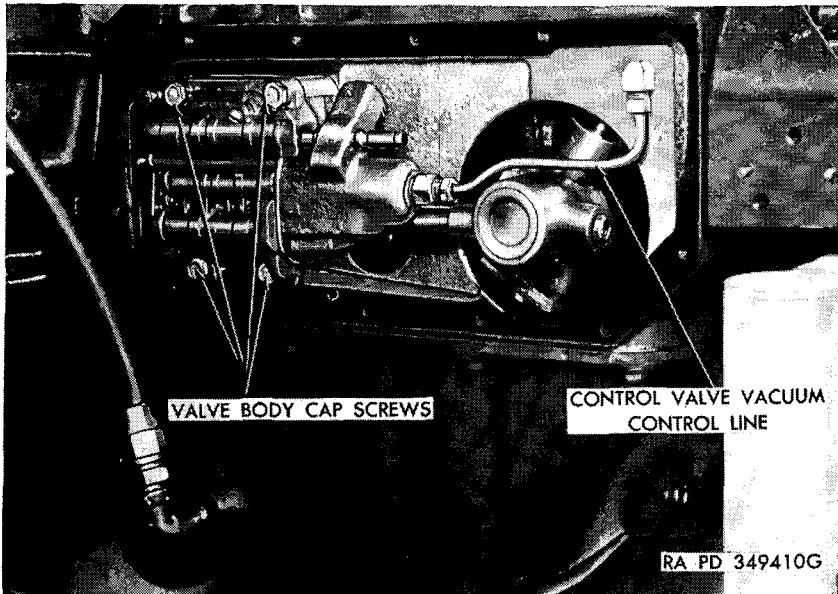
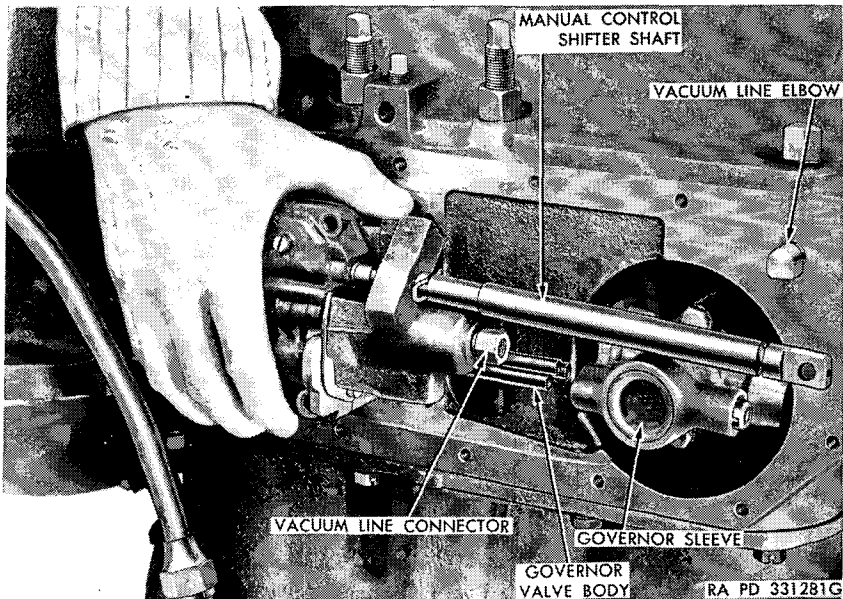

Figure 111. Transmission valve body installed.
Figure 112. Removing transmission control valve body.
- (3) *Remove valve body.* Disconnect control valve vacuum control line at valve body and elbow on transmission case and remove line (fig. 111). Remove four control valve body mounting screws, pull valve body assembly toward engine to move oil tubes out of governor sleeve, and remove assembly (fig. 112).
burs and thoroughly clean. See that three oil lines are in position in valve body (fig. 112) and place valve body in position on transmission case, entering the three oil lines into governor sleeves. Hold in position and install four mounting screws, tightening evenly to 6–8 foot-pounds torque, using a torque wrench. Position vacuum line on valve body and transmission case fittings and connect.